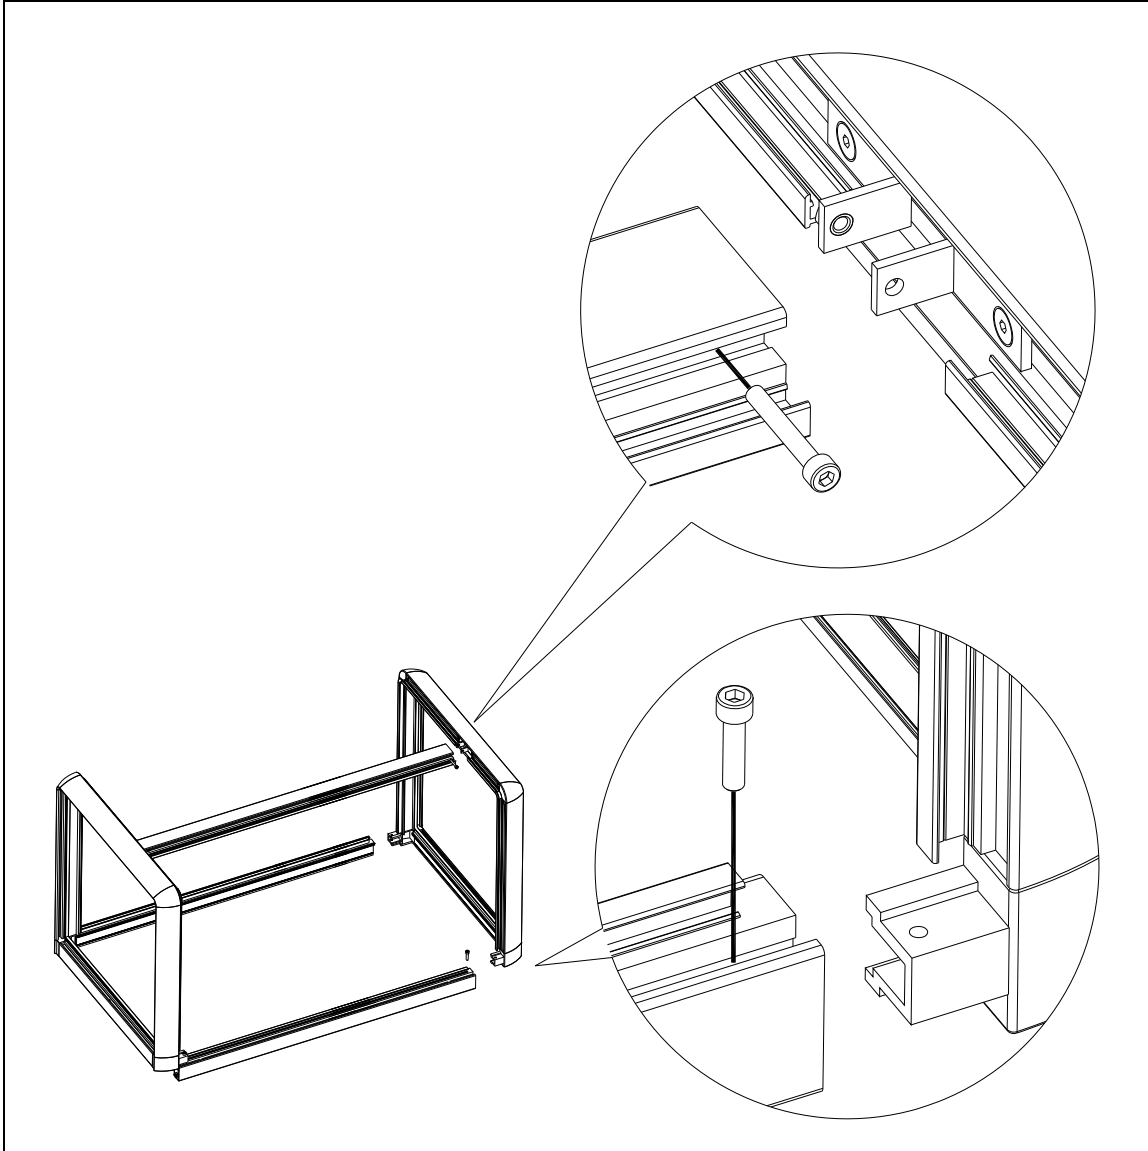

Figure 25: exploded view sound shield **M-SQ7**
- 2 The sound shield canopy can be disassembled according to exploded view below (figure 25).